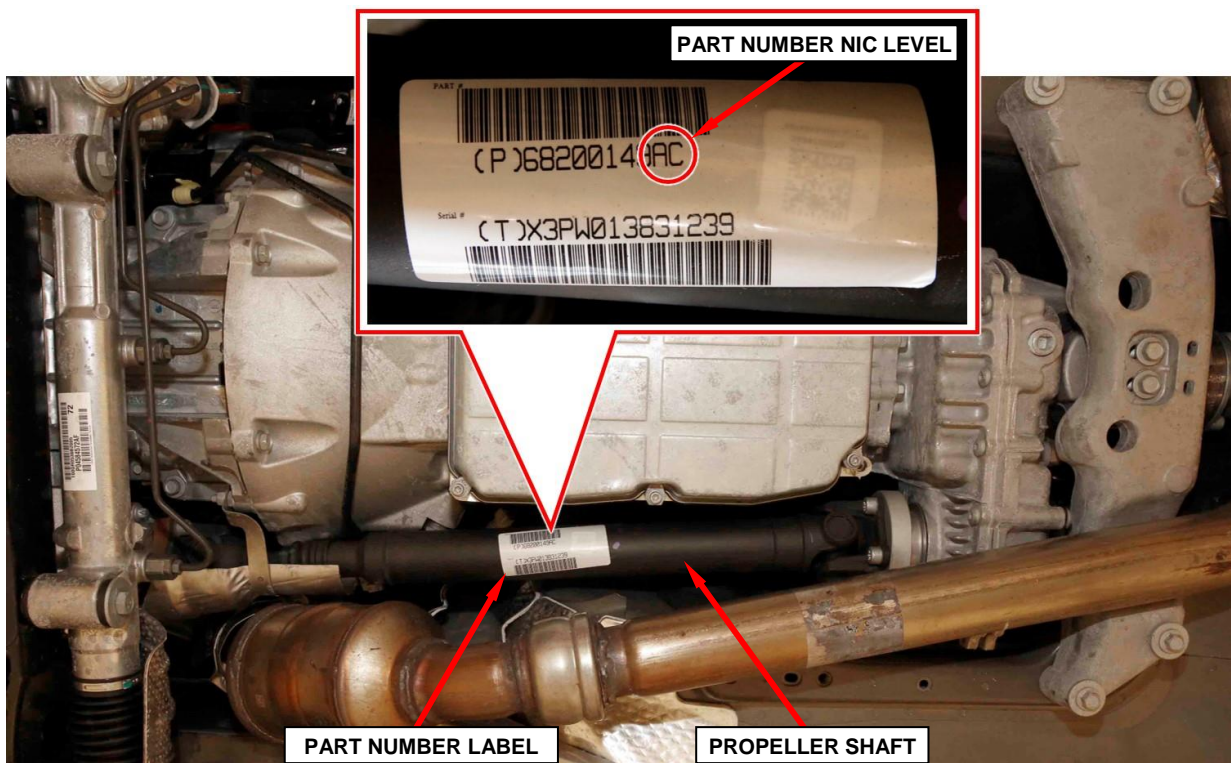

Figure 1 – Front Propeller Shaft Part Number Inspection
2. Inspect the propeller shaft part number (Figure 1).